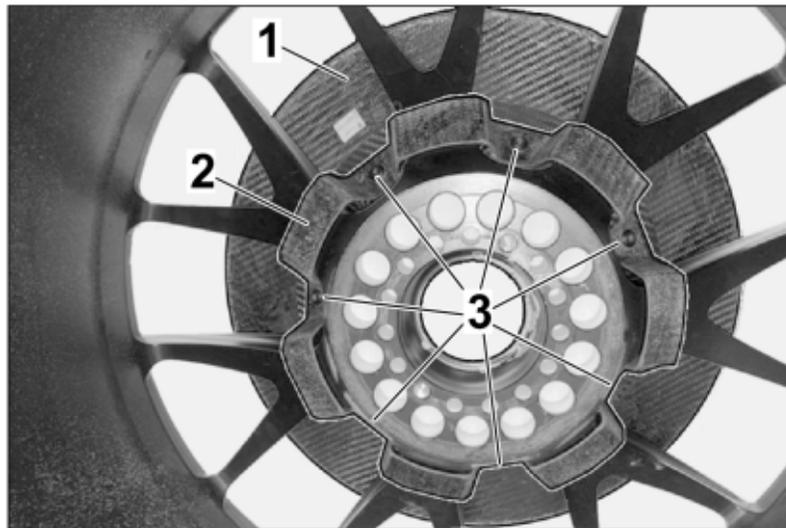

Figure 73
3. – Put the wheel cover ⇒ *Figure 73 -1*- into the rim from the front. Make sure to push the wheel cover completely into the rim.
4. – Attach the fastening ring ⇒ *Figure 73 -2*- from within.
5. – Attach the ring to the wheel cover with **M5 x 12 pan-head screws**⇒ *Figure 73 -3*-(7 pcs.): **Tightening torque 2.5 Nm (1.84 ft-lb)**